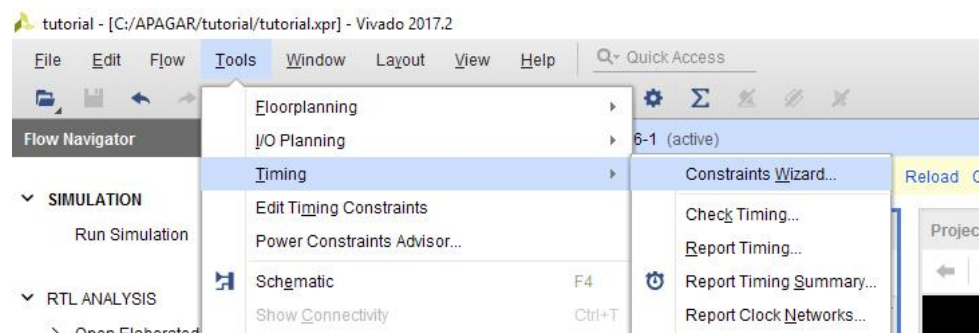

Figure 29
1. In the menu bar select the **Tools** menu and choose **Timing → Constraints Wizard...** (Figure 29)